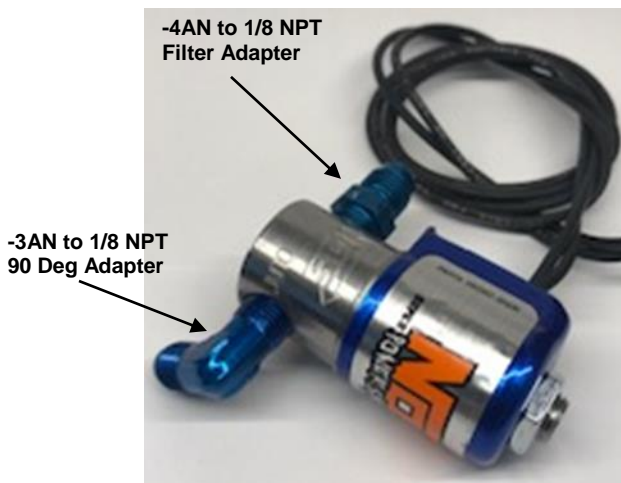

Figure 4 – Nitrous Solenoid Adapter Alignment
1. Apply a small amount of PTFE thread sealant to the NPT threads of the **nitrous inlet filter adapter** (-4AN to 1/8 NPT straight adapter with screen) and insert into the **IN** side of the nitrous solenoid. Use a bench vise to tighten the fitting at least 1-1/2 turns after finger tight. Apply a small amount of PTFE thread sealant (DO NOT USE PTFE Tape) to 90 Deg 1/8" NPT to -3 adapter on the NPT side and insert into the **OUT** side of the nitrous solenoid. Tighten fitting at least 1-1/2 turns after finger tight. See **Figure 4** for alignment. Repeat the same process and orient the 90 deg adapter in the same manner for the fuel solenoid as seen in **Figure 5**. Please note that the red adapter used on the **IN** side of the fuel solenoid will not have a screen filter built in.
2. Bend the bracket at the location seen in **Figure 6** at a 90 degree angle. Install the nitrous and fuel solenoid onto the bracket with the outlet facing the direction seen in **Figure 7**. To make routing the solenoid wires easier, you can loosen the nut at the top of the solenoid and turn the cap until the wires are coming out in the same direction as the IN side of the solenoid. This has already been done to the solenoids in **Figures 4 and 5**.